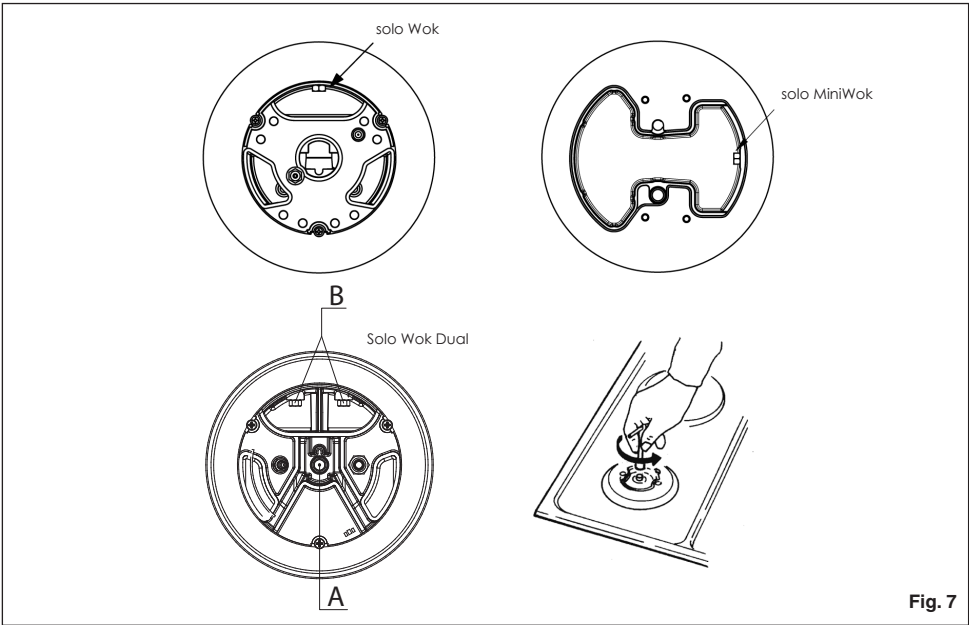

Fig. 7
Adaptation to various types of gas (Fig. 7)
- replace the injector (Fig. 7) with the corresponding type of gas to be used (see table "User characteristics");